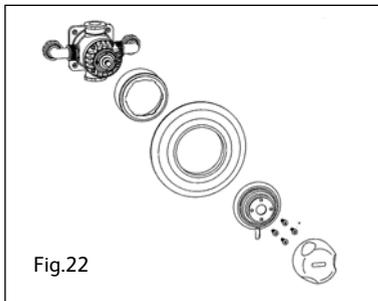

Fig.22
21. Push the On/off control fully home (Fig 22).